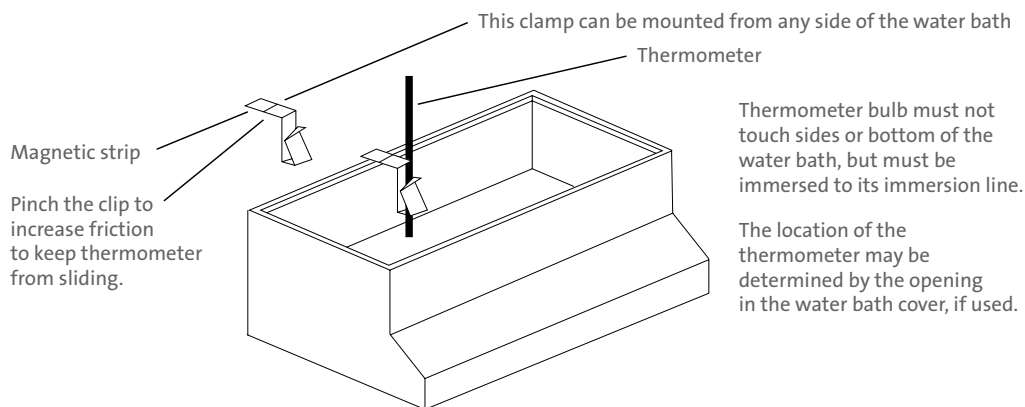

Figure 1. Water bath thermometer assembly
3. Place user-supplied thermometer in the desired position. A clip is provided for holding the thermometer (see Figure 1).